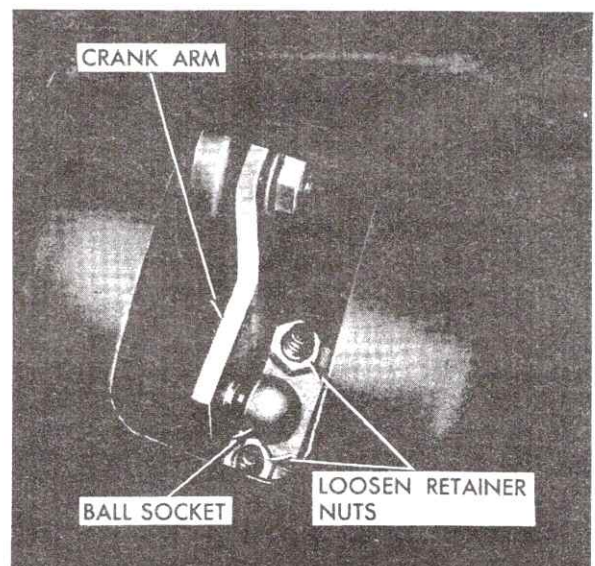

Fig. 12-24 Removing Crank Arm from Ball Socket
5. Loosen two locknuts securing wiper unit crank arm to ball socket on end of transmission drive linkage, then disengage crank arm from ball socket, Fig. 12-24.
2. Working through opening in cowl, install drive linkage ball socket on wiper unit crank arm and tighten two attaching locknuts that hold crank arm to ball socket, Fig. 12-24.